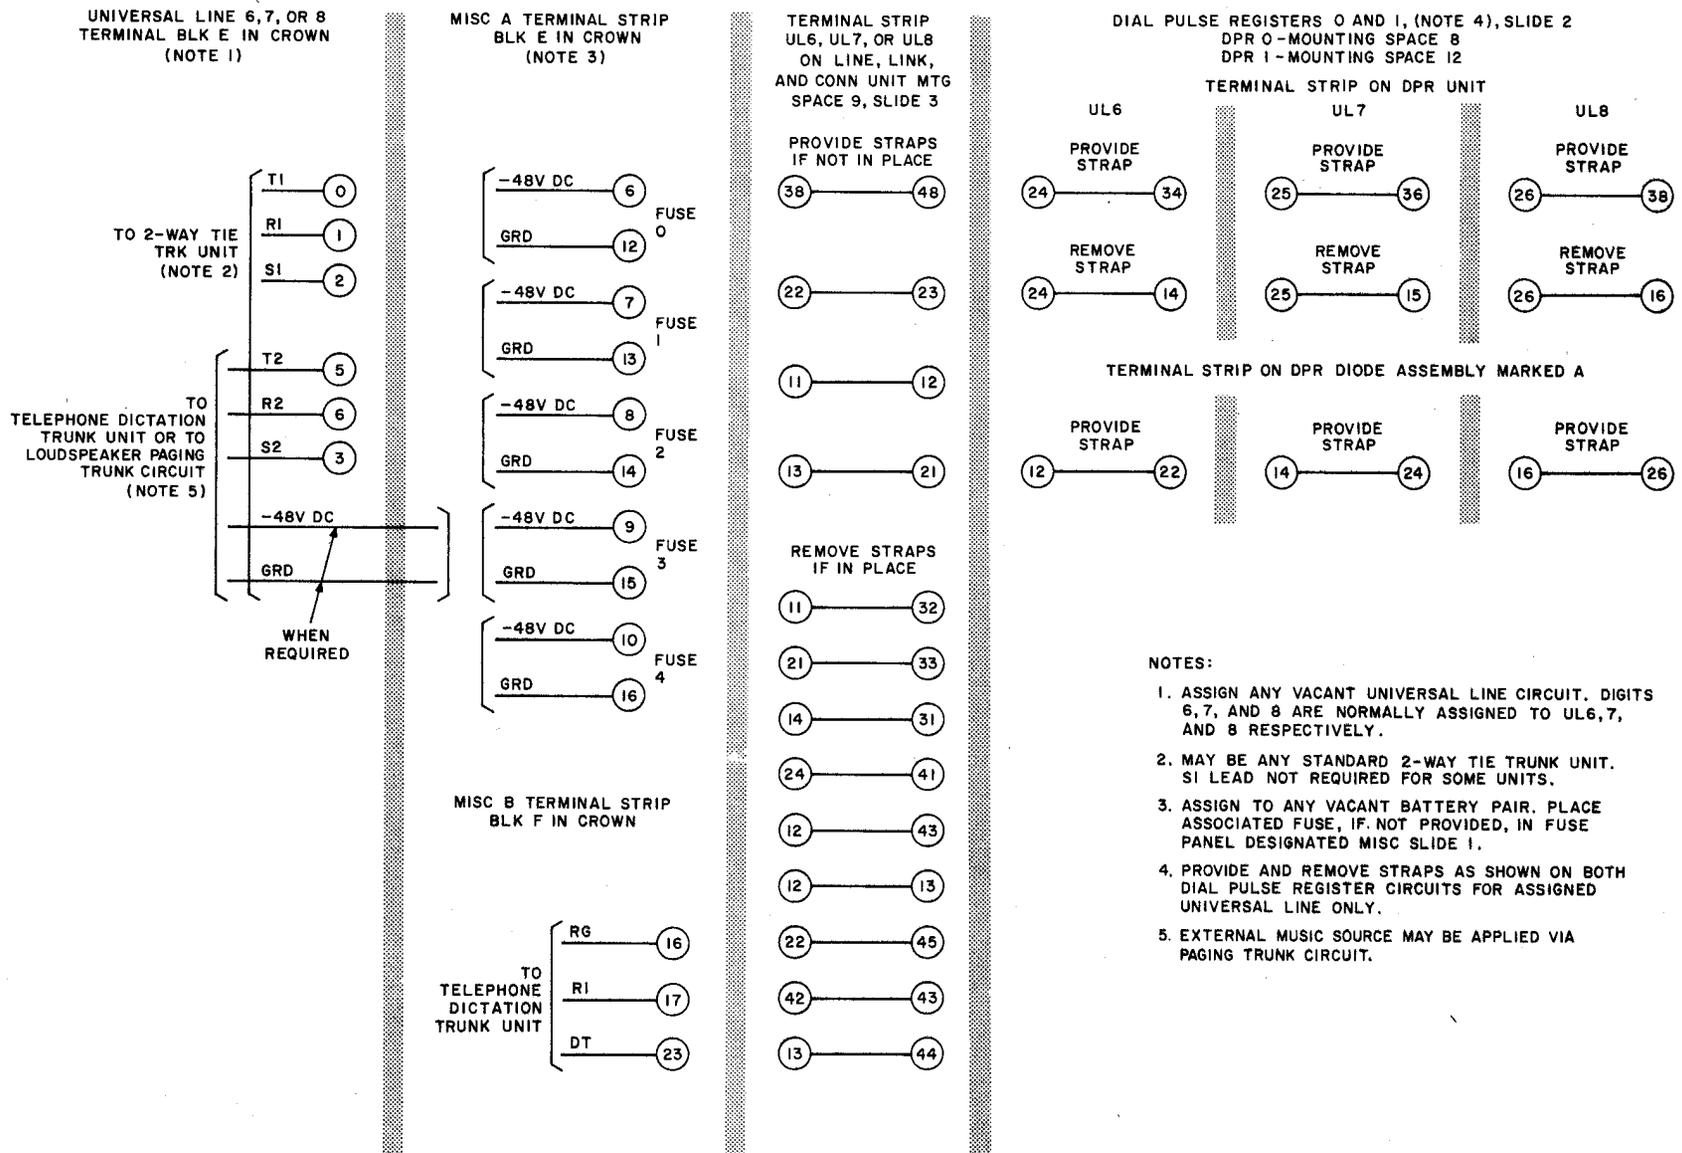

Fig. 21—Connections for Universal Line Circuit Assigned to Two-Way Tie Trunk, Loud-speaker Paging Trunk, or Telephone Dictation Trunk
- 2-Way tie trunk, Fig. 21
- Telephone dictation trunk, Fig. 21
- Loudspeaker paging trunk (may include external music source), Fig. 21.